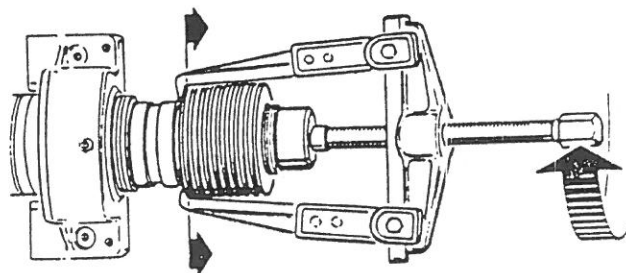

Figure 7
1. Release the lock washer (39) by opening bent tab and remove the round nut (40), using the pin spanner. Remove the V-belt pulley (37). The puller shown in figure 7 may be needed to remove the pulley.